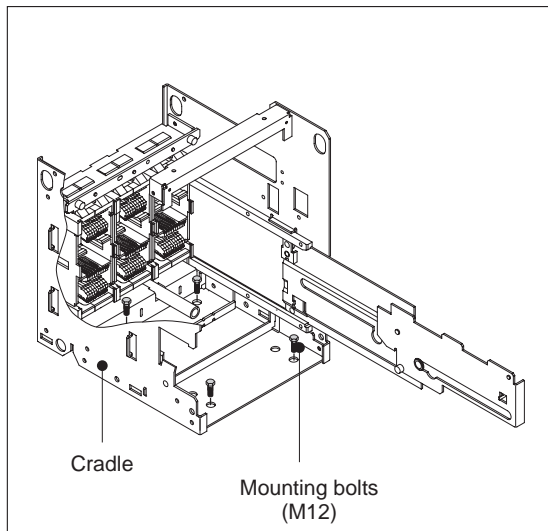

Fig. 2-25:
- ⑥ Remove the breaker from the cradle (for the method of lifting, refer to sec. 2-2).
- ⑦ As shown in fig. 2-25, insert four M12 bolts from above to mount the cradle. In case of AE4000 to AE6300, insert four M12 bolts from below and two M12 bolts from back.